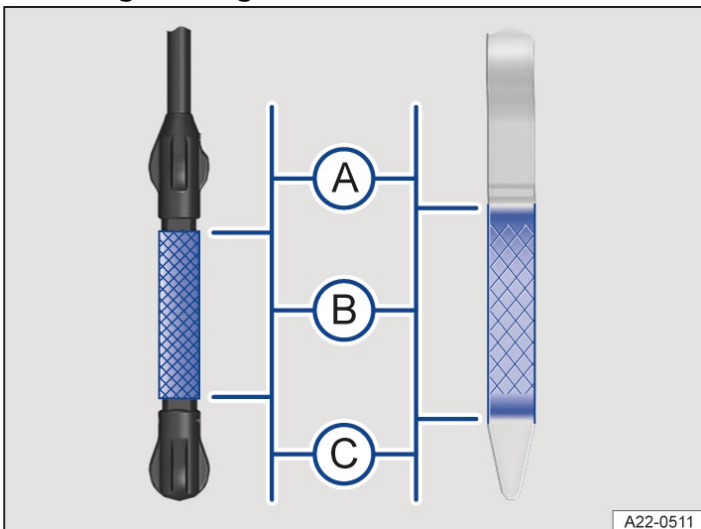

Fig. 2 Engine oil level markings on the oil dipstick (variants).
3. Pull out the oil dipstick again and read the engine oil level on the dipstick as follows → Fig. 2:
- (A) Engine oil level too high – observe the messages on the instrument cluster display or contact a correspondingly qualified workshop, if necessary. Volkswagen recommends using a Volkswagen dealership.
- (B) Engine oil level in the normal range. The engine oil can be filled to the upper limit of this range, for example if the engine is operated at high loads.
- (C) Engine oil level too low. It is essential to refill engine oil. If necessary, observe the messages in the instrument cluster display.